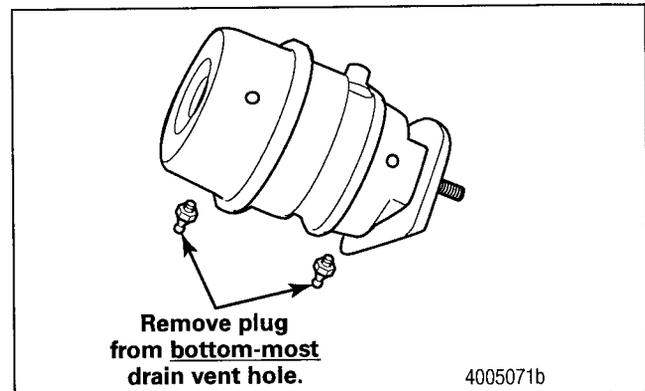

Figure 15
8. If removable breather plugs are supplied with the brake chamber, locate the bottom-most breather plug and remove it from the chamber. Figure 15.